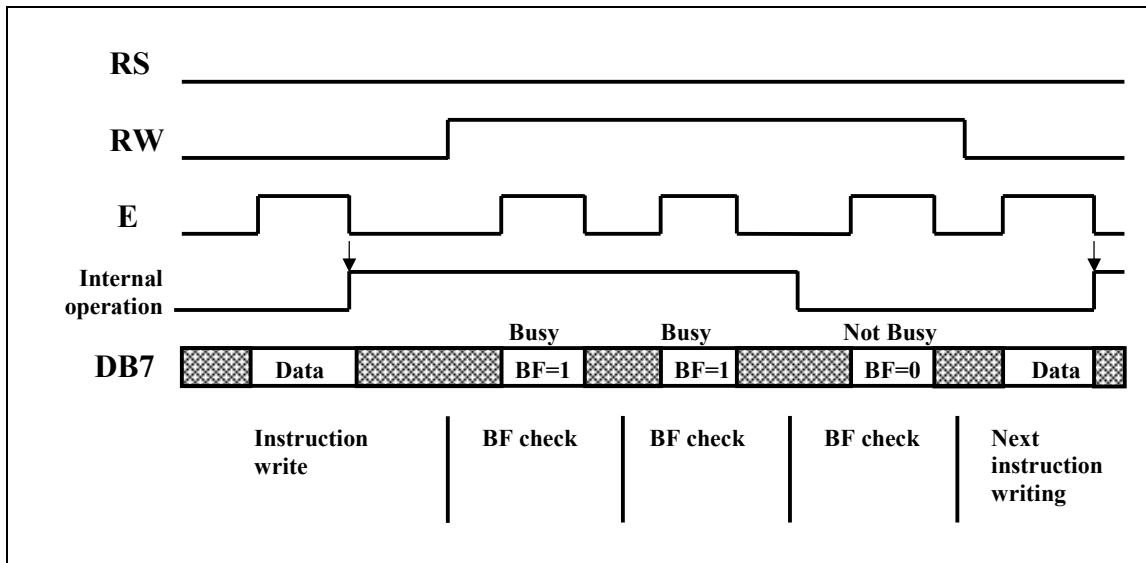

Figure 8. Example of instruction writing with Busy Flag check in 8-bit interface mode.
- By checking Busy Flag until its sets to 0. It's the most efficient way (see Figure 8 and 9).